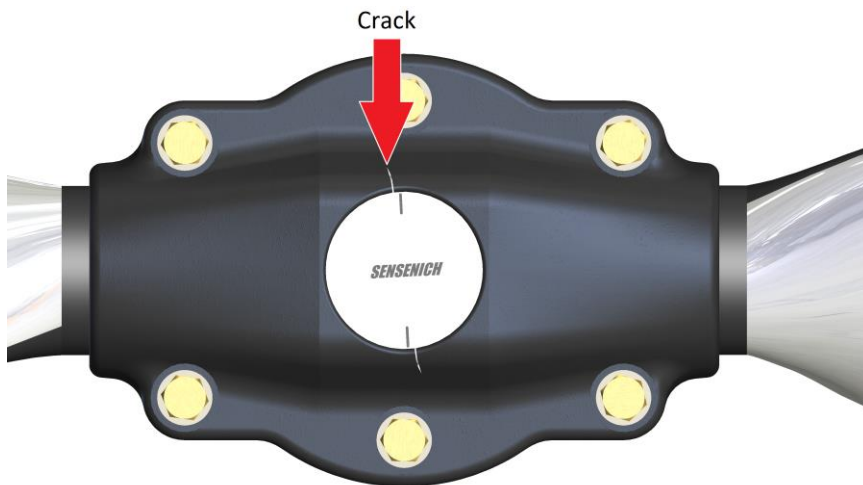

Figure 1. Cracks start near pitch marks and grow outwards.
- Remove spinner dome (and front bulkhead, if used). Closely inspect the hub cover (clamp half) around the pitch cylinder and on the hub sides. Also examine the sides of the hub mount half. See Figures 1 and 2.